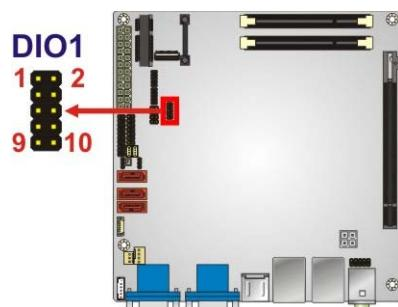

Figure 3-9: Digital I/O Connector Location
**CN Label:** DIO1**CN Type:** 10-pin header (2x5)**CN Location:** See Figure 3-9**CN Pinouts:** See Table 3-8